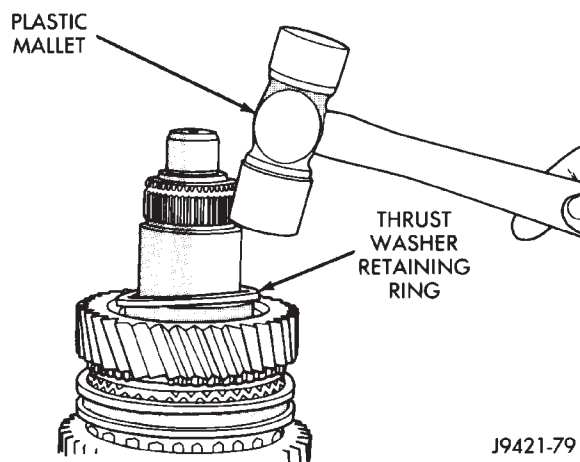

Fig. 72 Seating Thrust Washer Retaining Ring
(26) Seat thrust washer retaining ring with plastic mallet (Fig. 72).